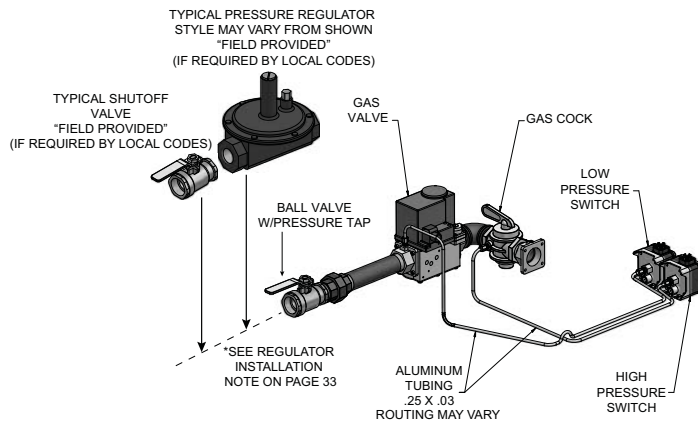

Figure 3-3A_VF 500 - 1000 High & Low Gas Pressure Switches
- Figures 3-3A and 3-3B on page 30 show piping connections for high and low gas pressure switches for respective VF Series models.